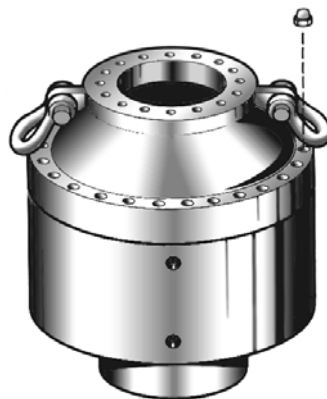

Figure 4-15. Removing the Bonnet Nuts (Applicable to All Models)
1. Remove the bonnet stud nuts (3) which retain the upper housing (6) (see Figure 4-15).
1. Remove the bonnet stud nuts (3) which retain the upper housing (6) (see Figure 4-15 on page 4-15).